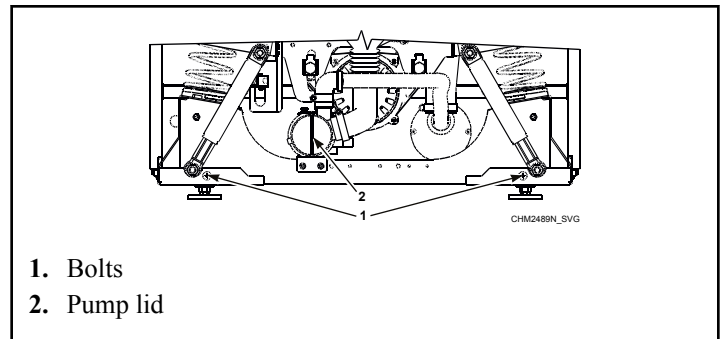

Figure 32
- c. Remove the front panel of cabinet by unlocking bolts. Refer to *Figure 32*.